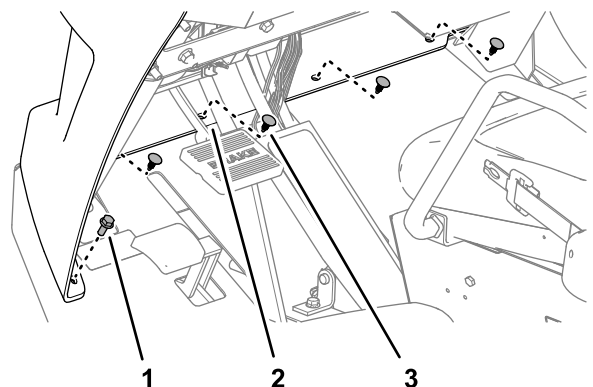

Figure 141
4. Assemble the bottom flange of the hood to the machine with 4 push-in fasteners (Figure 141).
5. Secure the flange to the machine (Figure 141) with 2 flange-head bolts (5/16 x 3/4 inch).